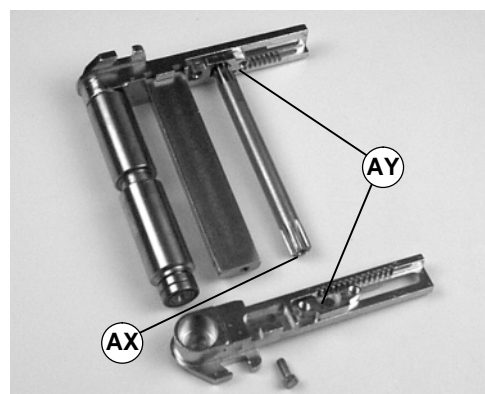

Figure 44
**IMPORTANT:** On tension tail, be sure to correctly orient components to match the factory orientation. Orient threaded hole side of pinion (AX of Figure 44) so it is toward detached tail plate as shown. Be sure both pinion housings (AY) engage the same tooth positions of racks as shown.